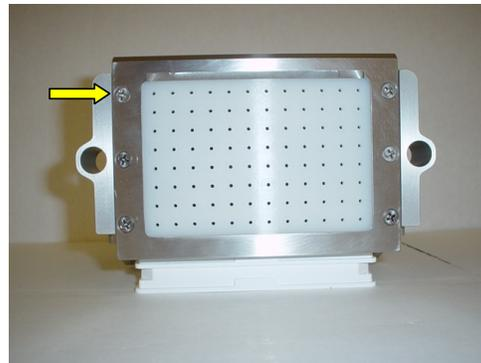

Figure 5-9: Silicon pad bracket
3. Remove the six bolts that attach the silicone pad bracket to the syringe head. The pad bracket can now be removed. See Figure 5-9.